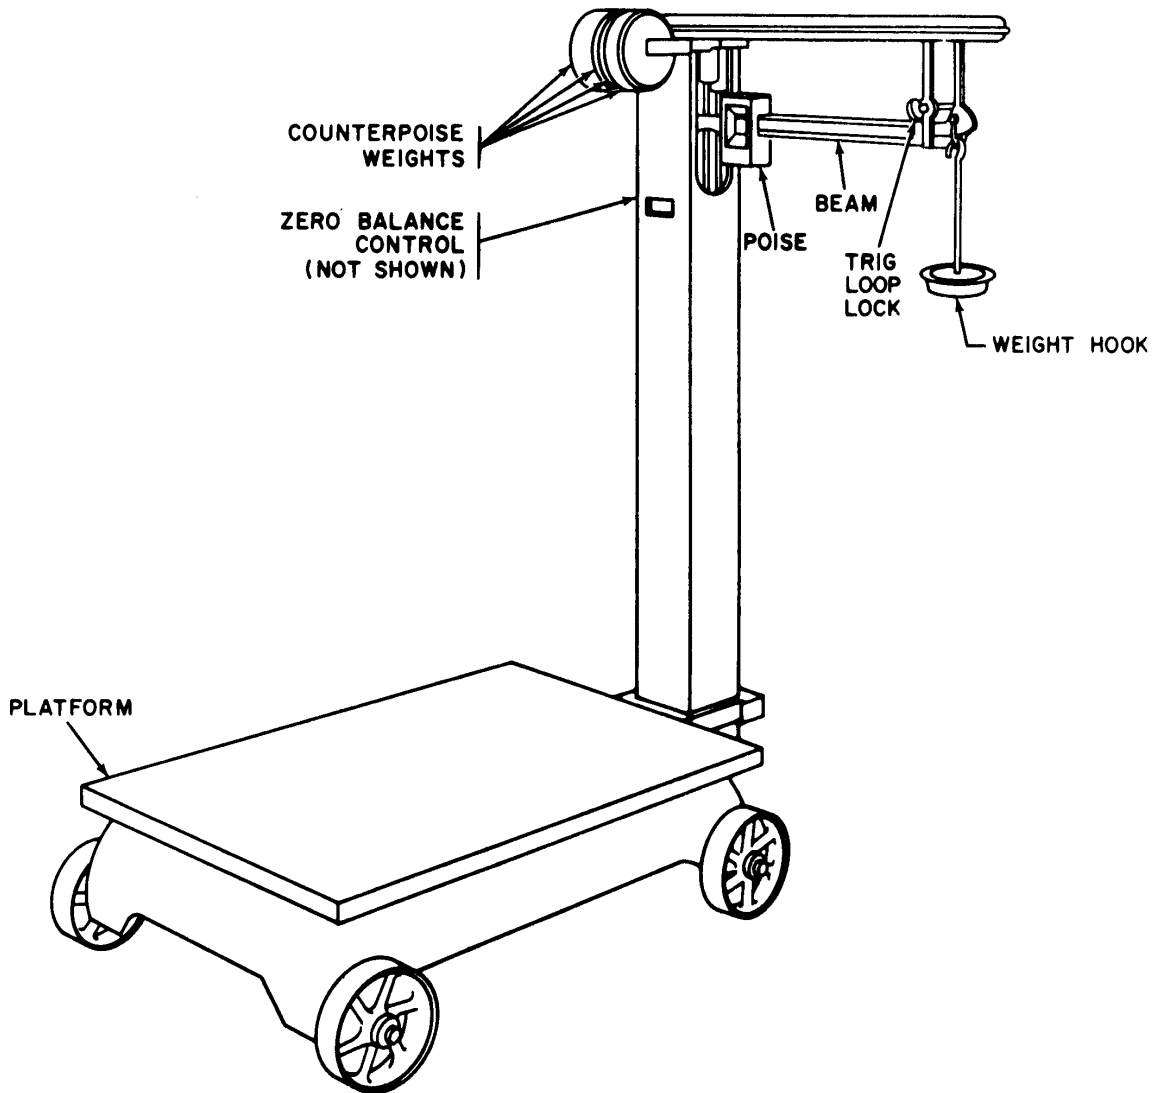

Figure 1. Beam indicating scale, type 1 (typical).
- b. Check that counterpoise weight hook (fig. 1) is installed at end of beam (fig. 1) of UUT.
- c. Check that trig loop lock (fig. 1) is in the unlocked position.
- d. With the poise (fig. 1) set on zero, check that beam is balanced. If necessary, rotate zero balance control (fig. 1) clockwise or counterclockwise as required to balance the beam.